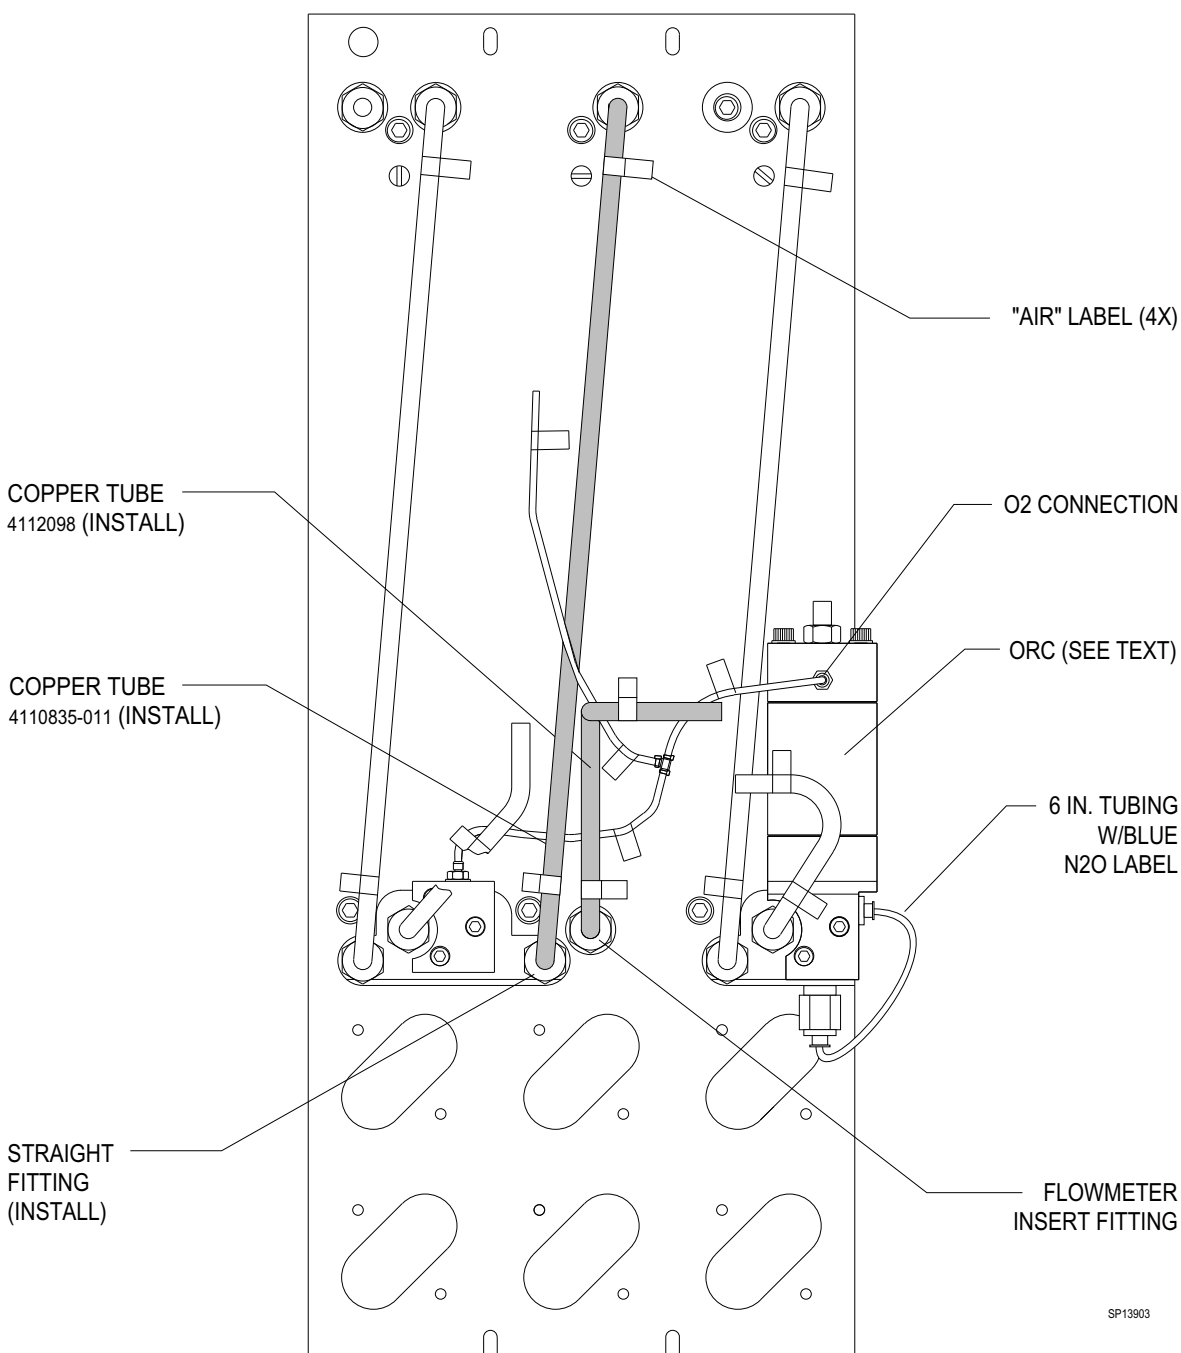

Figure 3: COPPER TUBING INSTALLATION
23. Place a drop of red Loctite #271 on the threads and install a straight fitting (P/N 4109408) in the bottom flowmeter block at the location shown in Figure 3.
24. Install copper tube (P/N 4112098) into the fitting at the back of the flowmeter insert and install two yellow AIR labels (P/N 4109872) at the locations shown in Figure 3.
NOTE: Skip the next six steps if the machine is equipped with a later design ORC (P/N 4113229) having the 6 in. N₂O bypass line as shown in Figure 3.
31. Install copper tube (P/N 4110835-011) connecting the top and bottom flowmeter blocks, and install two yellow AIR labels at locations shown in Figure 3.